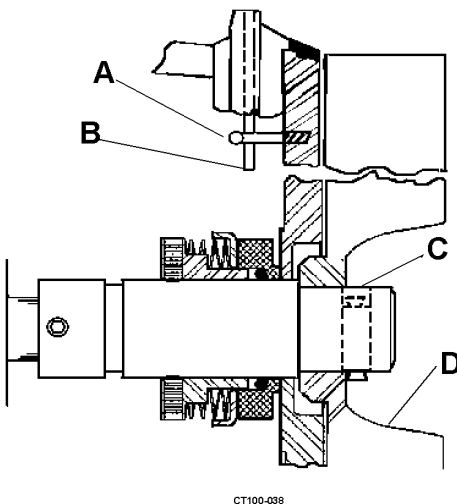

Figure 27 - Backplate Installation
5. Install the backplate on the adapter. Check that the seal cup slot is engaged with the pin on the drive collar. See Figure 27.
6. Rotate the backplate until the backplate pins engage the adapter pins. (See Figure 27, item A and B.)
7. Rotate the shaft until the pin hole in the end is in a horizontal position. Insert the impeller pin (Figure 27, item C), center it in the shaft end, and slide the impeller (Figure 27, item D) onto the shaft.
1. Install the backplate, gasket, and casing. See Figure 27 on page 23.